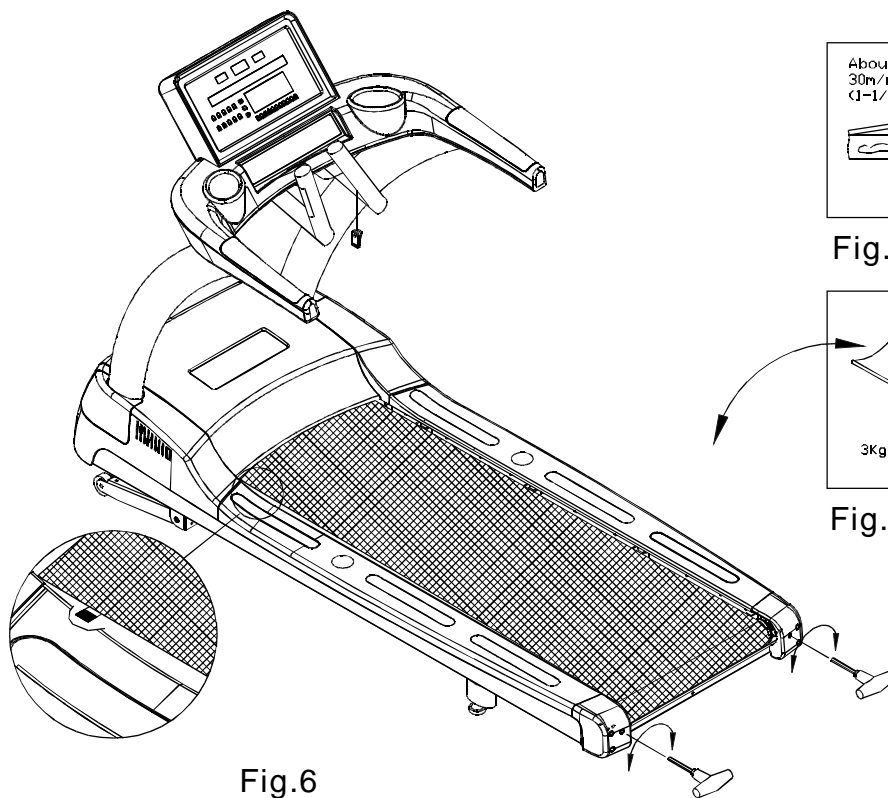

Fig.6
11. Periodically inspect belt tracking and tightness to ensure optimum performance of your treadmill. To check the correct tension of the belt, hold the belt in the middle, and lift up about 30 mm (1 1/8") or 3 kg (6.6 pounds) of force (see Fig. 6, 6-1, 6-2).